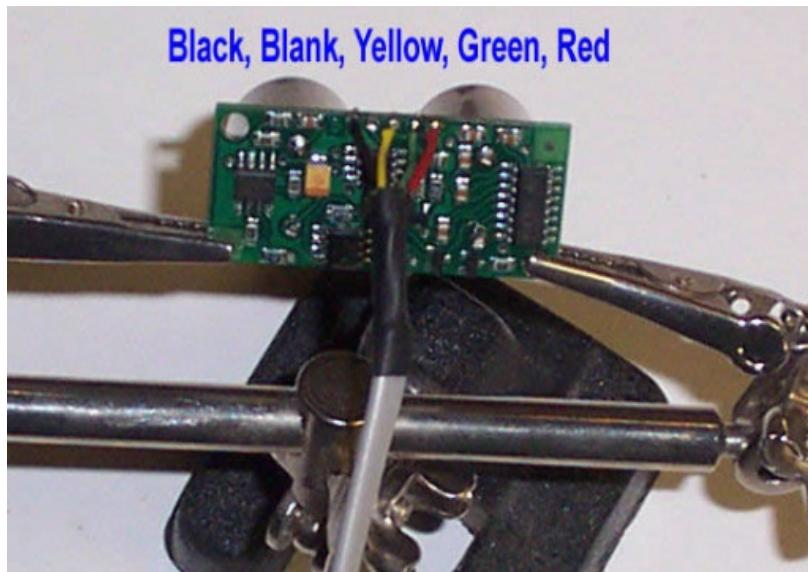

Figure 60: Devantech SRF04 Wire Arrangement
4. Place the wires in the holes as shown in Figure 60 and solder them. The insulation of the wires needs to come up to the board to avoid shorts when assembled with the Trekker.
5. Slide a piece of heat shrink onto the wire and shrink it as shown in Figure 60.